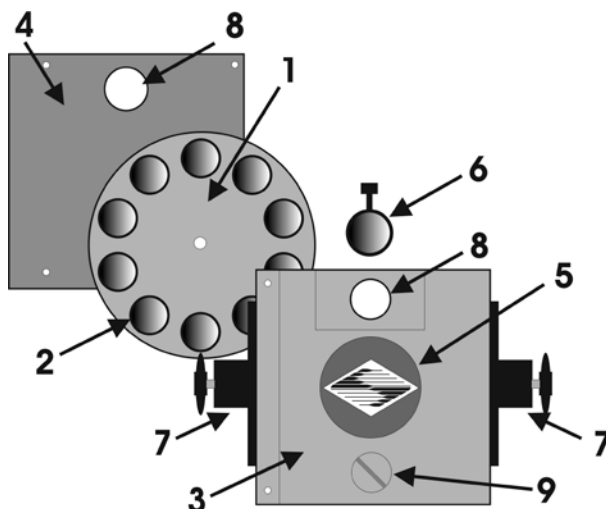
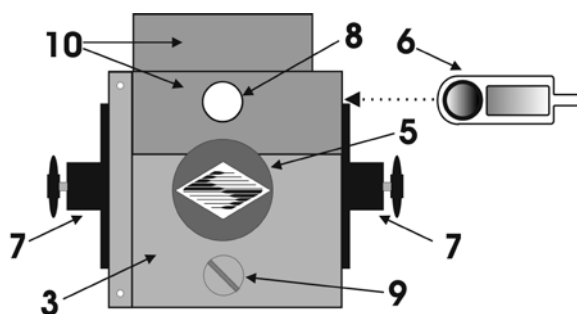

Figure 1-1. Lambda 10-2 Filter Wheel (without shutter)
Figure 1-2. Lambda 10-2 filter wheel housing (with shutter)
The basic components of the filter wheel mechanical assembly are shown below in Figure 1-1 and Figure 1-2. The only components that are to be removed by the user are the drop-in or slide in filter holders and the plug in the loading port. At no time should the user remove the cover plate from the wheel housing.
6. Drop-in filter holder (Figure 1-1) or slide-in filter holder (Figure 1-2)